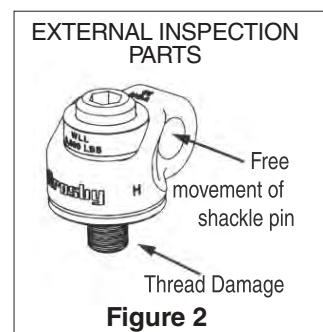

Figure 2
- Regularly inspect hoist ring parts (Figure 2).